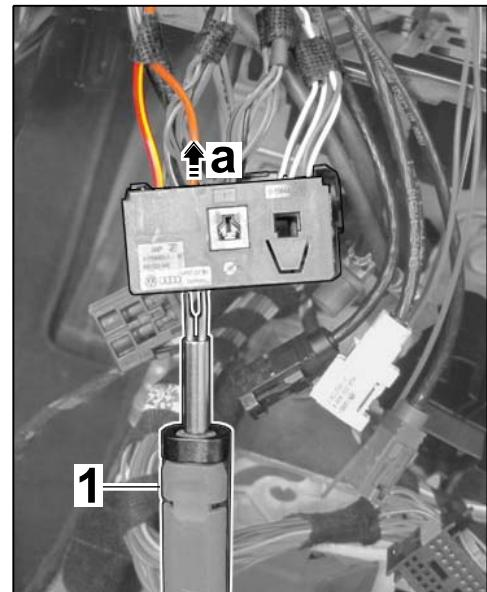

Figure 23
4.4.6 Release socket contacts using a suitable press-out tool  $\Rightarrow$  Figure 23 -3- and press lines out of the PCM central connector  $\Rightarrow$  Figure 23 -a-.